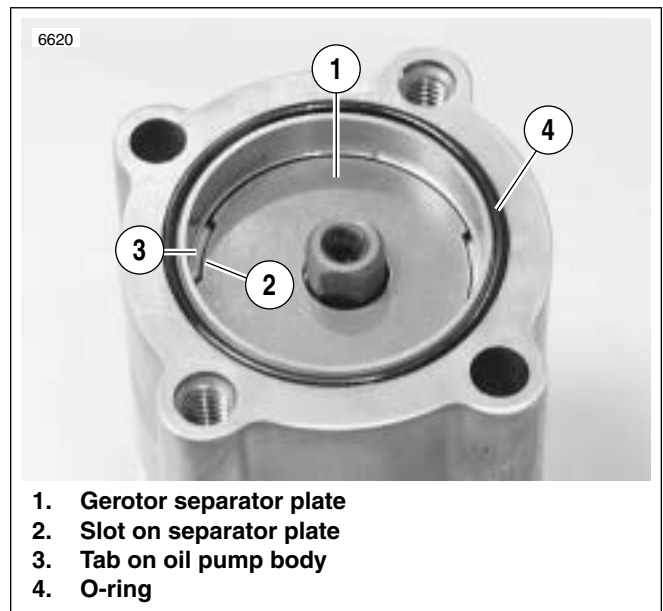

Figure 3-123. Separator Plate Slots
4. See Figure 3-123. Install gerotor separator plate by lining up slots on perimeter with tabs inside oil pump body.